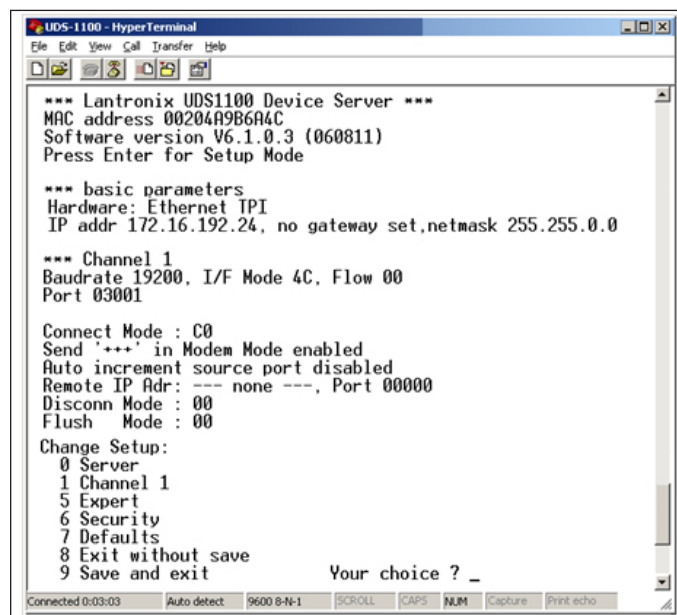

Figure 3: Setup Mode
5. Press **Enter** within 1 second after this prompt. **Setup Mode** appears with the prompts seen in **Figure 3**.